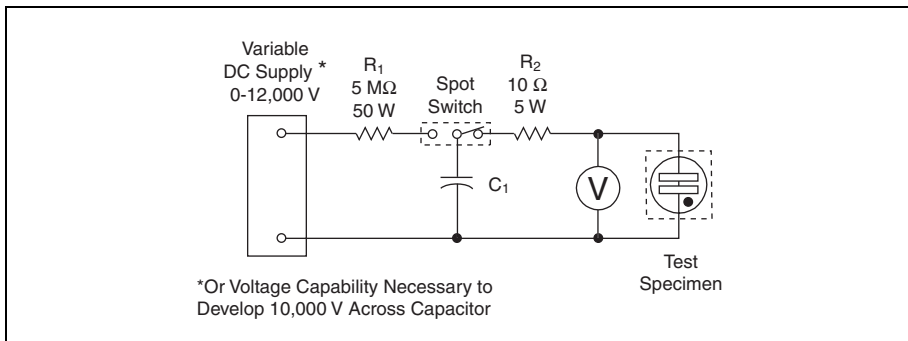

Figure 4.13 UL 497B Discharge Test
4. Discharge Test — Protectors must comply with strike voltage requirements after being subjected to five successive discharges from a 2 μ F capacitor charged to 1000 V dc. (Figure 4.13)
voltage after being subjected to 500 discharges from a $0.001\ \mu\text{F}$ capacitor charged to 10,000 V dc. The discharges are applied in five-second intervals between one side of the protector and Ground. Upon completion of the discharge tests, protectors are once again required to meet the strike voltage requirement. (Figure 4.13)